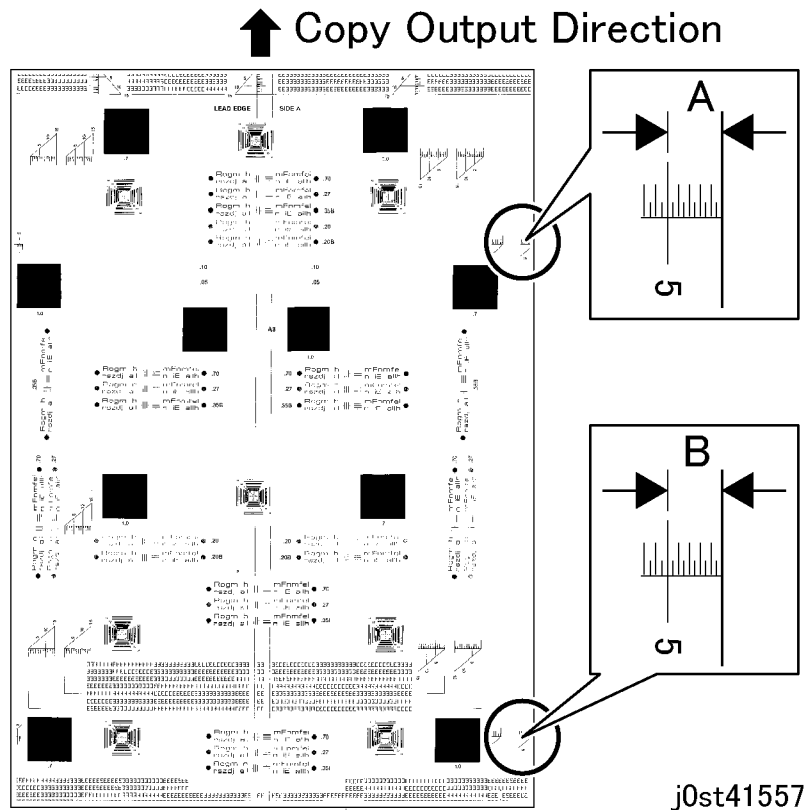

Figure 1 Checking the Lead Skew in the original
3. Check that the difference between measurement A and measurement B (Figure 1) is within 0.5mm for all 3 copies. If the measurement difference is not within specifications, perform the Adjustment.